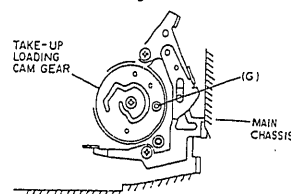

Fig. 3-3
- Reinstall the take-up loading cam gear so that hole (G) in the gear is aligned with the hole in the main chassis. (See Fig. 3-3)